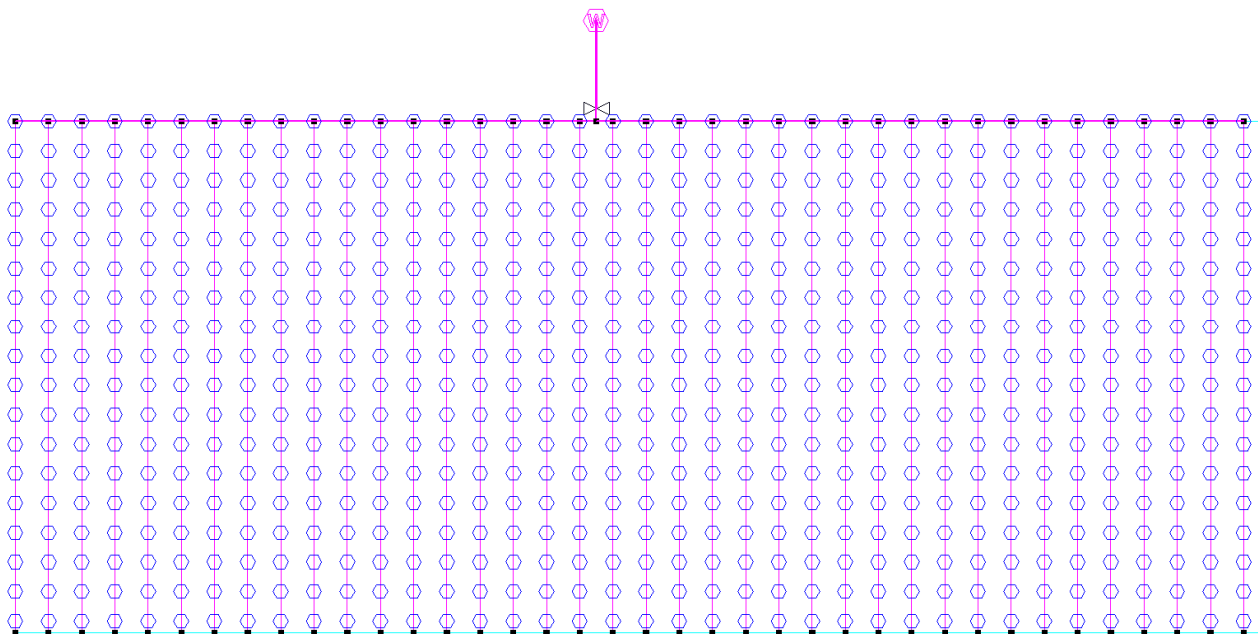

Figure SM 7
22. Select *Mainline|Water Supply*. Connect to the junction on the left end of the mainline pipe by placing the eater supply on top of the junction. Accept the default name of **Supply No. 1**. Do not enter any flow or pressure requirements (IRRICAD will assume that the water supply is unrestricted and will determine these requirements during design and analysis). Click **[OK]**. Your design should look like Figure SM 7.